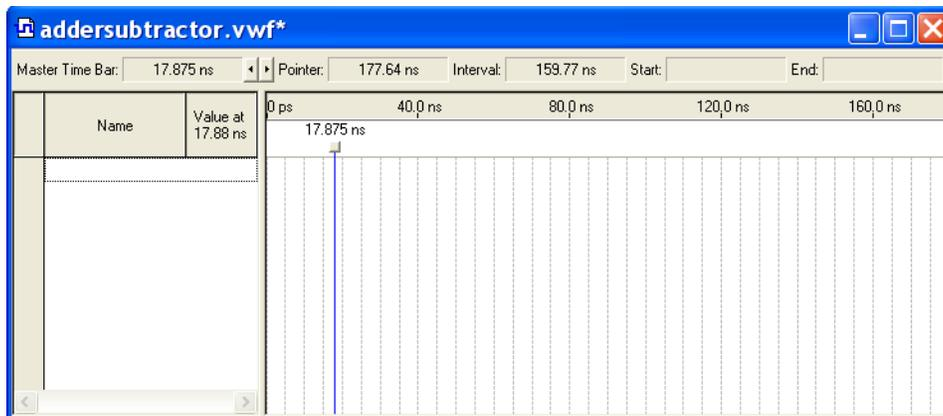

Figure 5. The Waveform Editor window.
2. The Waveform Editor window is depicted in Figure 5. Save the file under the name *addersubtractor.vwf*; note that this changes the name in the displayed window. In this figure, we have set the desired simulation to run from 0 to 180 ns by selecting **Edit > End Time** and entering 180 ns in the dialog box that pops up. Selecting **View > Fit in Window** displays the entire simulation range of 0 to 180 ns in the window, as shown. Resize the window to its maximum size.